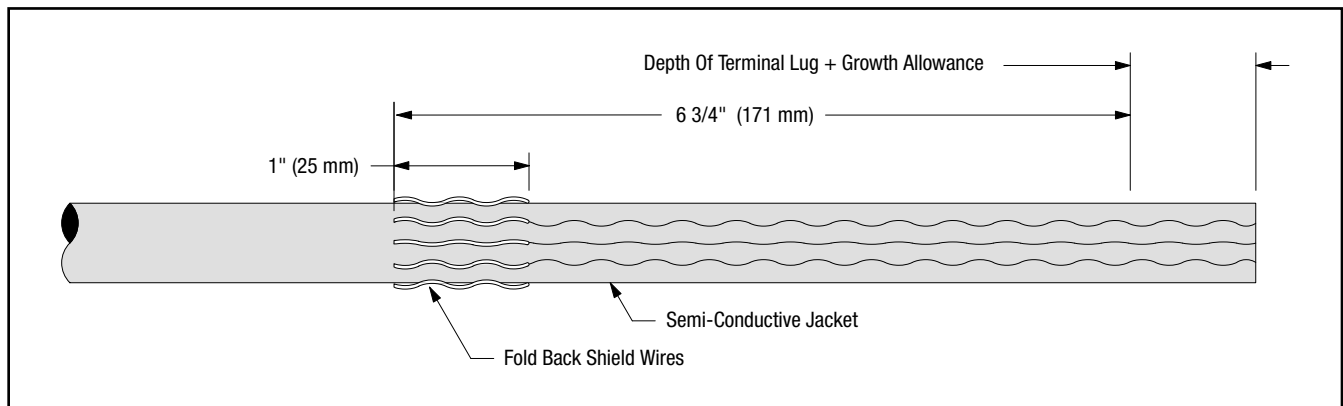

Figure 16
12.4 Remove constant force spring. Bend shield wires back upon cable jacket 1" (25 mm). Cut excess shield wire and discard (*Figure 16*).